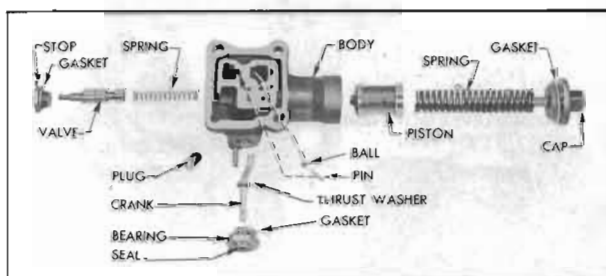

Figure 5-78—High Accumulator—Disassembled
2. Remove the pipe plug, cap, gasket, spring (2 in low) and piston from accumulator body. Keep parts separated so that same parts will be reinstalled in same body. See figure 5-78.
3. *On high accumulator only*, remove clamp bolt, lever, bearing with seal, gasket, thrust washer and control valve crank from accumulator body, then remove valve stop with gasket, control valve and spring. See figure 5-78.
11. *On high accumulator only*, install spring, control valve and stop, then install crank with thrust washer, bearing with new gasket and seal (grooved side inward), operating lever and clamp bolt. See figure 5-78.
13. Install pipe plugs in both accumulator bodies and install check ball and retaining pin in the high accumulator body. See figure 5-78.